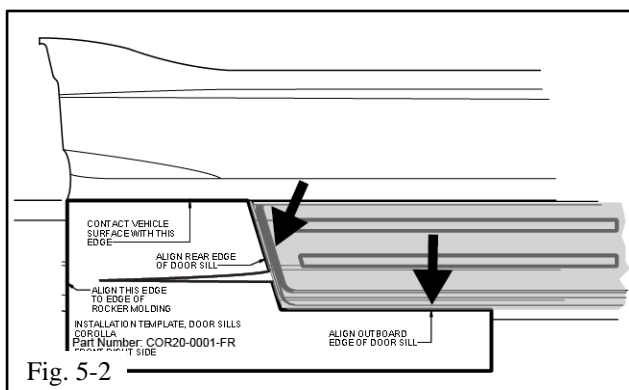

Fig. 5-2
- (1) Align rear edge of door sill to template (Fig. 5-2).
- (2) Align outboard edge of door sill to template (Fig. 5-2).